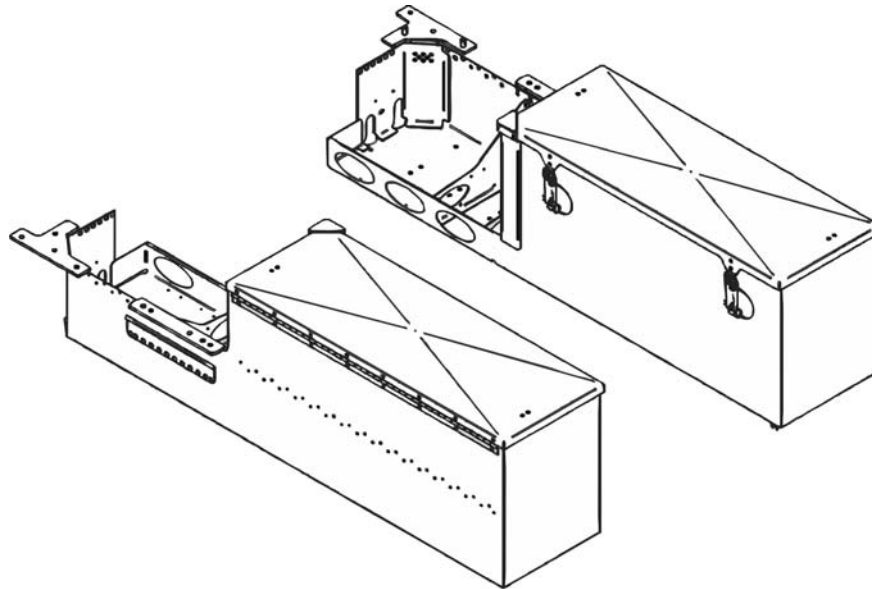

Figure 28 Bin Assemblies
64. **Bin Assemblies.** Bin assemblies (Figure 28) are mounted on the left and right-hand of the cargo tray. Each bin assembly consists of a lidded bin, jerrican holder and pack storage area. Each bin has a drain plug mounted in the bottom. The lid opens outward, has a stay to hold the lid open and latches on the front to secure it. Personnel protectors are fitted to the corners of the lid to reduce injury from impacts. Brackets are provided for weapon storage.